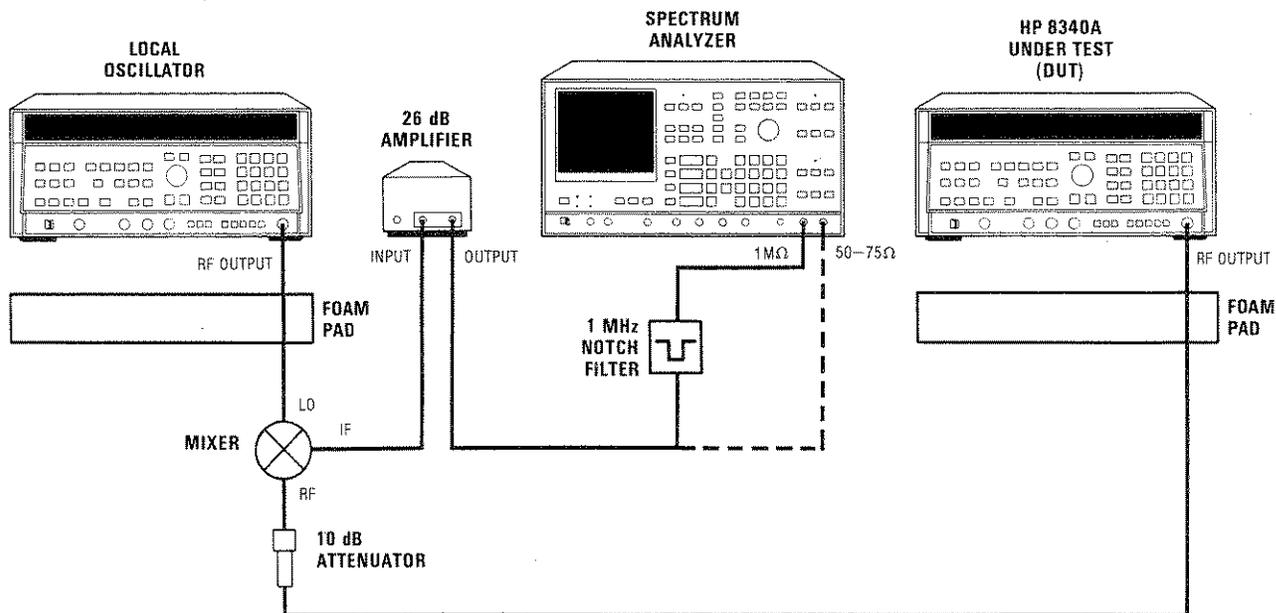

Figure 4-9. Single Sideband Phase Noise Test Setup
1. Connect equipment as shown in Figure 4-9 with the amplifier connected directly to the 3585A 50 Ohm input.
The foam pads shown in Figure 4-9 are required to isolate the DUT and LO from mechanical vibrations which could induce phase noise.
17. Connect 1 MHz Notch Filter as shown in Figure 4-9. Select 1 MOhm input impedance on the 3585A.
23. Connect equipment as shown in Figure 4-9 with the amplifier connected directly to the 3585A 50 Ohm input. Return 3585A to 50 Ohm input impedance.
- 32. Connect the equipment as shown in Figure 4-9 with the 1 MHz Notch Filter connected. Select the 1 MOhm input impedance on the 3585A.